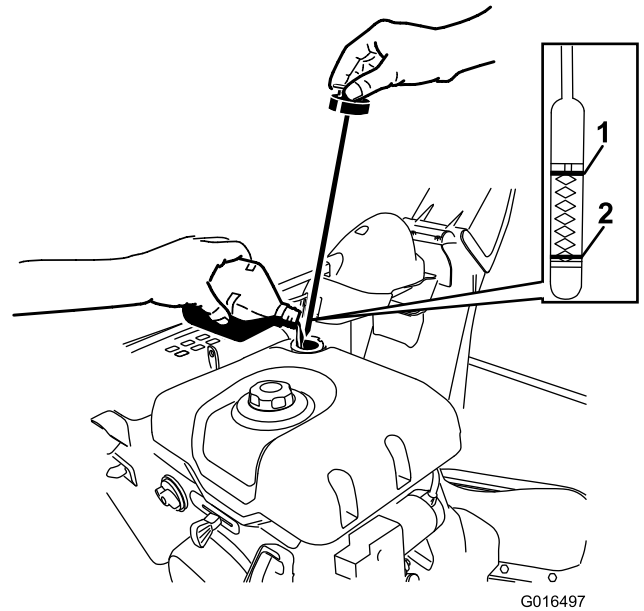

Figure 19
1. Remove the dipstick by rotating the cap counterclockwise and **slowly** pour oil into the oil fill tube to raise the oil level to the Full mark on the dipstick. **Do not overfill.** (Figure 19).